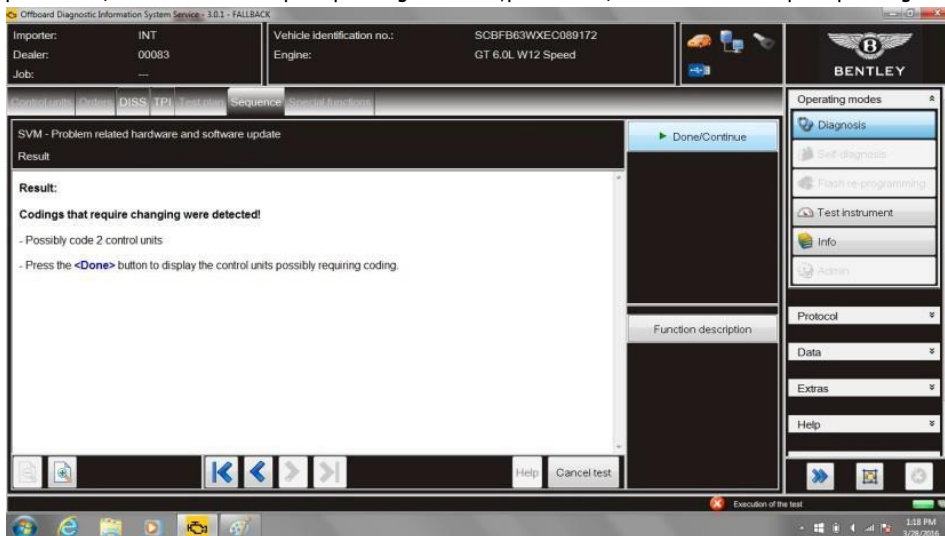

Figure 10
20. At Results screen select Done/Continue and if prompted allow the tester to perform any required coding (see Figure 10)